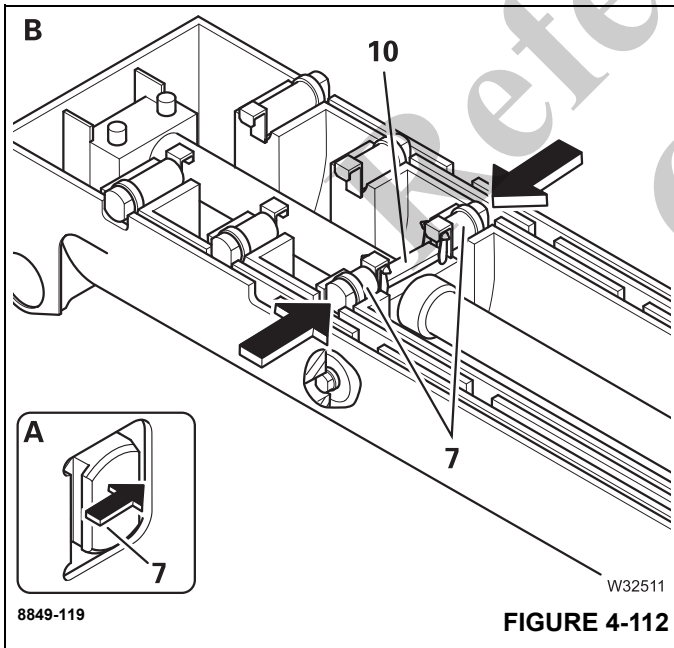

FIGURE 4-112
(A), (Figure 4-112) – The telescoping cylinder extends until the locking pins (7) are clear.
(B), (Figure 4-112) – The mechanism (10) retracts the locking pins (7) – the telescopic section is unlocked.